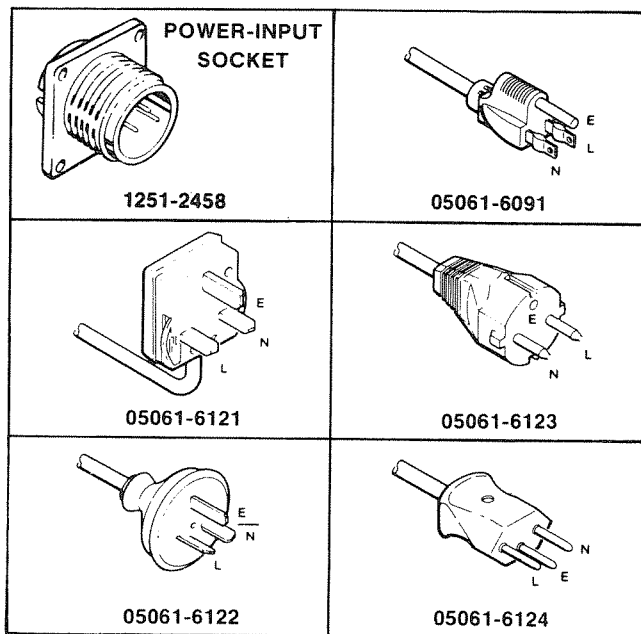

Figure 2-1. Power Cable HP Part Numbers versus Mains Plugs Available
*This part number will vary depending on country of destination. See *Figure 2-1* for additional power cable part numbers that are available.
to make a dc power cable. The type of power cable shipped with each instrument depends on the country of destination. Refer to Figure 2-1 for the part numbers of the power cable and plug configurations available.